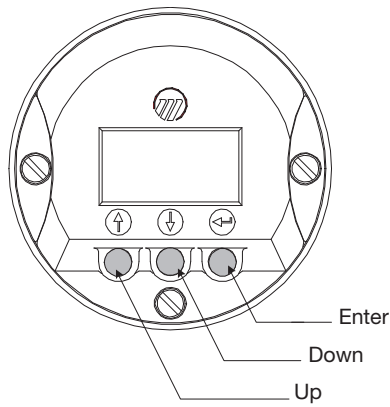

Figure 3
3. Use the $\uparrow$ and $\downarrow$ keys to move from one step of the configuration program to the next step, see Figure 3.